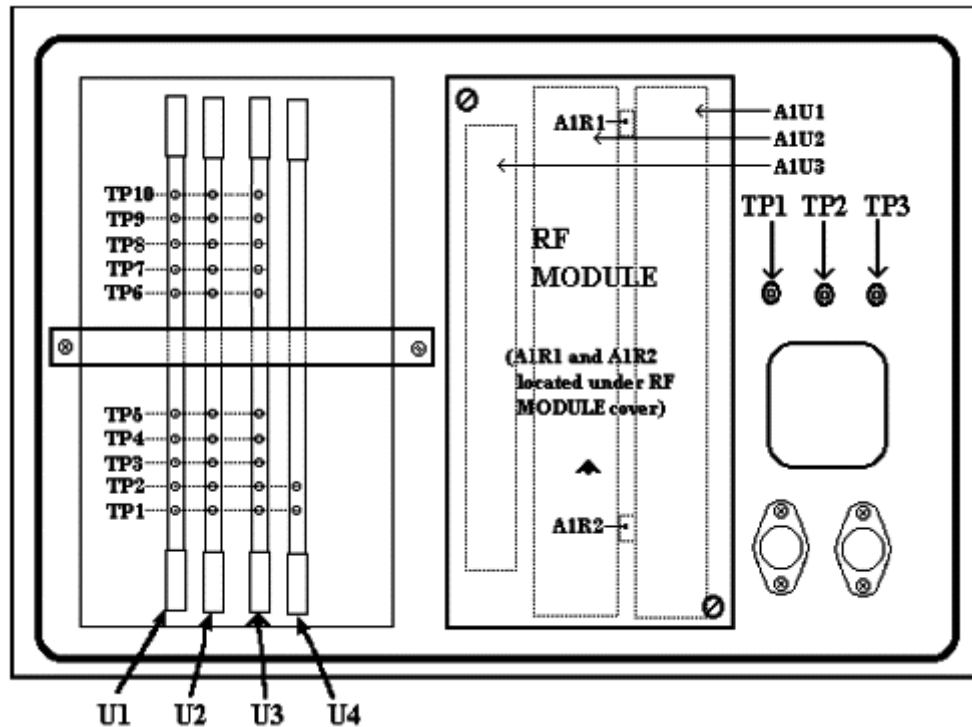

Figure 2. Test instrument – rear view.
(1) Set TI **POWER** switch to **OFF** and remove the housing from the RF MODULE (fig. 2) as listed in (a) through (c) below.
(a) Disconnect the three RF cables from side of RF MODULE (fig. 2).
(b) Release the two hold-downs at opposite corners of module and gently lift RF MODULE (fig. 2) A1 from its connector.
(c) Replace RF MODULE (fig. 2) into its chassis assembly and reconnect the three RF cables.
(6) Adjust A1R1 (fig. 2) until **ACCEPT/REJECT** indicator just changes from **REJECT** to **ACCEPT (R)**.
(3) Measure pulse power output of TI. If measured output power is not between -5 and -7 dBm, perform **b** below.
**b. Adjustments.** Adjust A1R2 (fig. 2) until power meter indicates -6 dBm. Reinstall RF module cover (R).